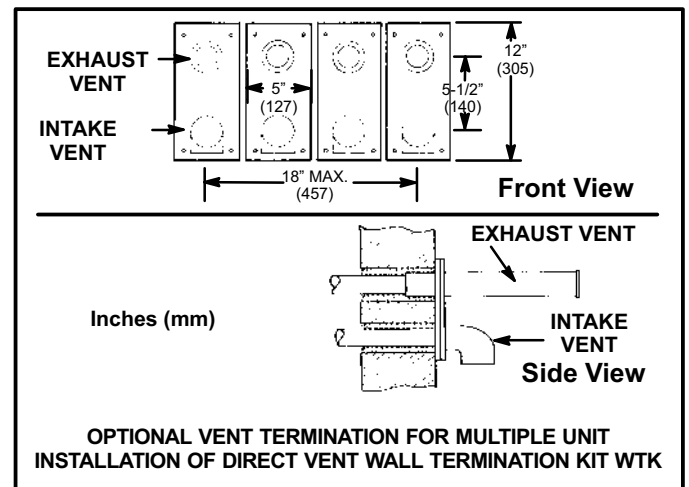

FIGURE 30
8. Based on the recommendation of the manufacturer, a multiple furnace installation may use a group of up to four termination kits WTK assembled together horizontally, as shown in figure 30.